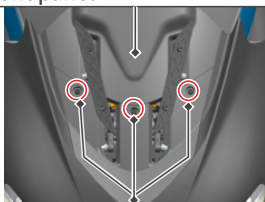

Figure 2
2.Remove the 3 expansion nails on the upper part of the front panel middle cover, and remove the front head cover assembly.(Fig 2:The red circle is the fixed expansion nail)